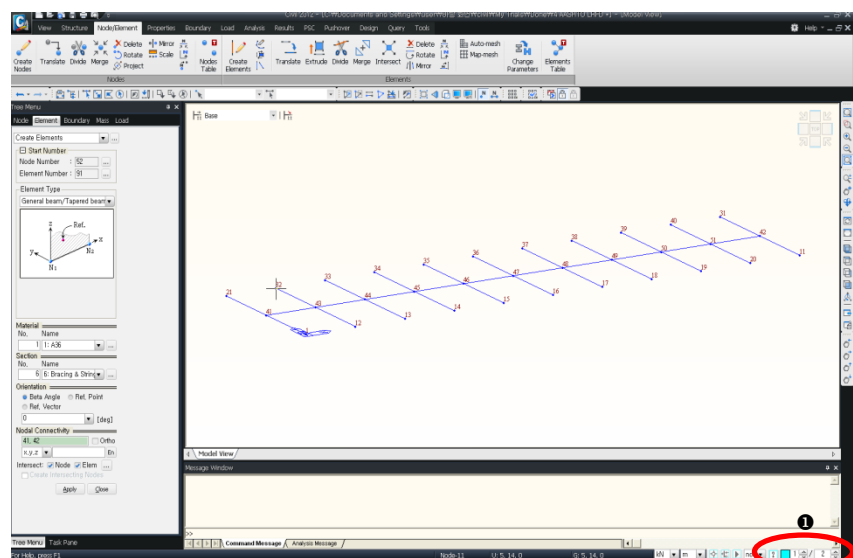

Figure 4.12 Completed Stringers
10. Confirm that the location of **Element Snap** in **Status Bar** is 1/2 (Figure 4.12 ❶).
12. Click  **Element Number** (Toggle off) in the Icon Menu (Figure 4.12).